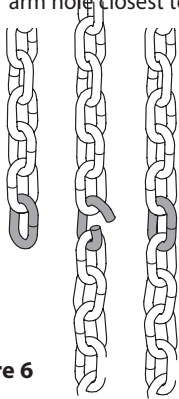

Figure 6
- 2) Connect the hand chain ends together as shown in **Fig 6.** by twisting open the last link on one end of the chain, and slipping the last link on the opposite end onto the open link.